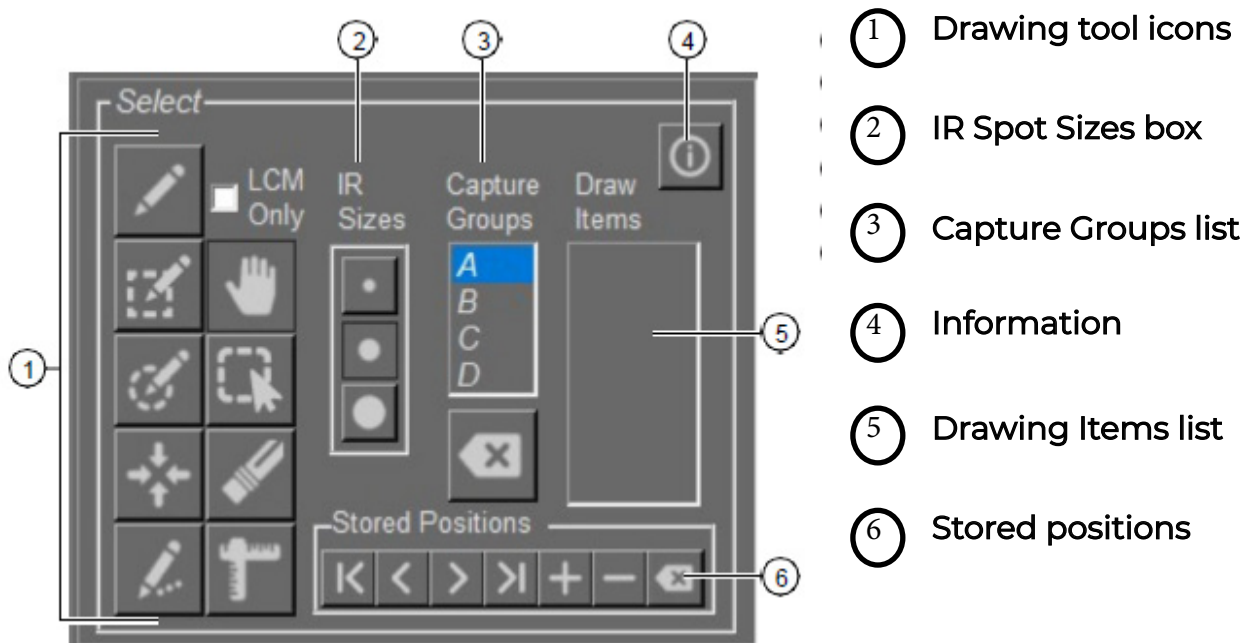

Figure 14
1. Select the relative size of the IR capture spots. In the Select tools pane, click the desired size (small, medium, or large) in the IR Spot Sizes box (see Figure 14).
- b. To turn off a drawing tool, tap or click (Move Stage, Figure 14).
For each item that you draw, a number appears in the **Drawing Items** list (see Figure 14).
4. (Optional) To designate cells and tissue for a second capture group, tap or click a different capture group in the Capture Groups list (Figure 14), then repeat step 3. For example, drawing items that belong to capture group B are not collected on the same CapSure™ Cap as capture groups A, C, and D.
1. Click (Select Object(s)) tool (see Figure 14).